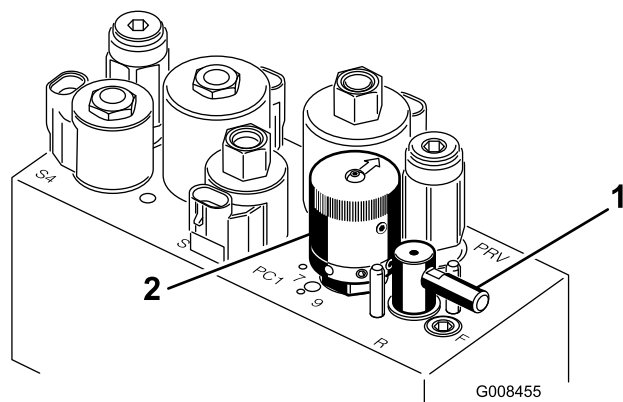

Figure 49
5. Rotate the Backlap Lever to the “R” position (Figure 49).
6. Rotate the Reel Speed Control to setting 1 (Figure 49).